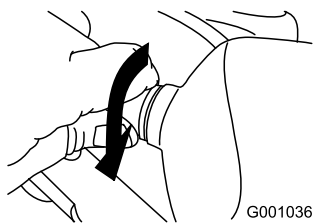

Figure 57
5. Turn the base of the bulb clockwise until it is snug (Figure 57).